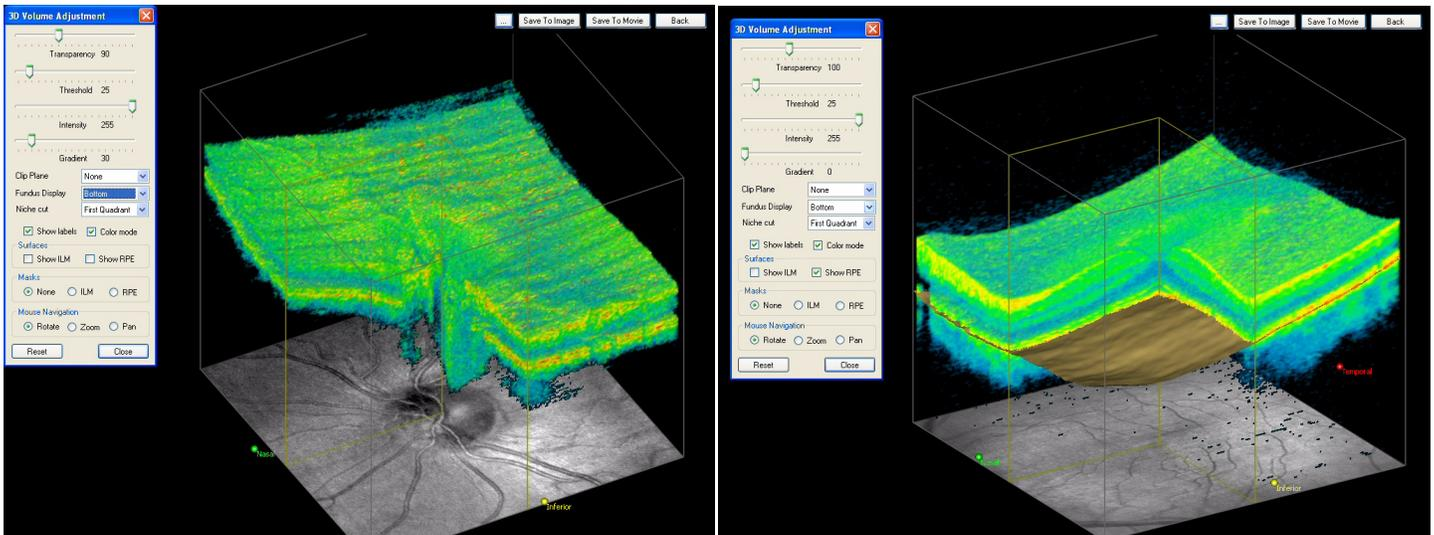

Figure 4-17 First Quadrant niche cut on an optic disc cube and a macular cube
- **Niche cut** drop-down menu: Lets you select simultaneous cuts in both the X and Y planes using the four quadrant options. **None** is the default. See examples in Figure 4-17.
- **Surfaces** checkboxes: The image on the right in Figure 4-17 above has the **Show RPE** checkbox selected. By default, neither checkbox is selected. When you select **Show ILM** and/or **Show RPE**, the selected surfaces are shown as a single-color contour, using the same colors for ILM and RPE as in the Macular Thickness Analysis (see page 4-3).